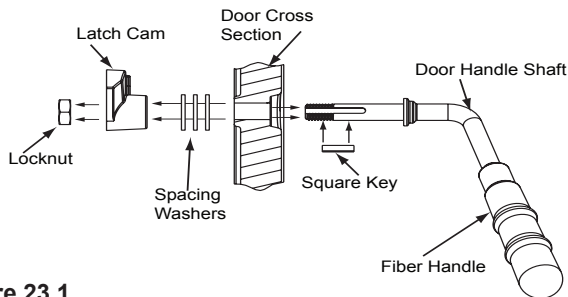

Figure 23.1
2. Install additional washer(s) as shown in **Figure 23.1**.
6. Install fiber handle (**Figure 23.1**).